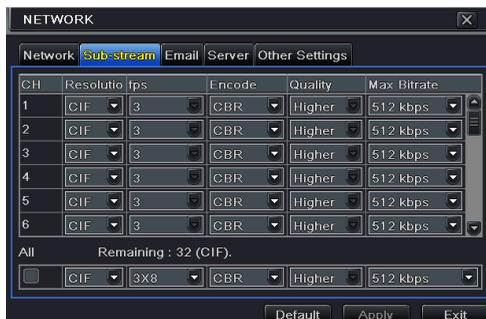

Fig 4-25 Network Configuration-Sub Stream
Step 1: Enter into Menu→Setup→Network →Sub Stream interface. Refer to Fig 4-25: